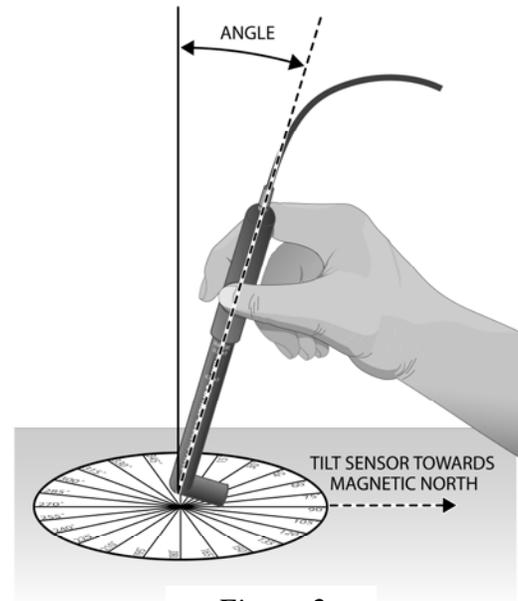

Figure 2
- Slowly tilt the sensor toward and away from the direction of magnetic north. Monitor the magnetic field intensity on the screen. Continue to adjust the tilt until a maximum reading is displayed. Hold the sensor in that position. See Figure 2.